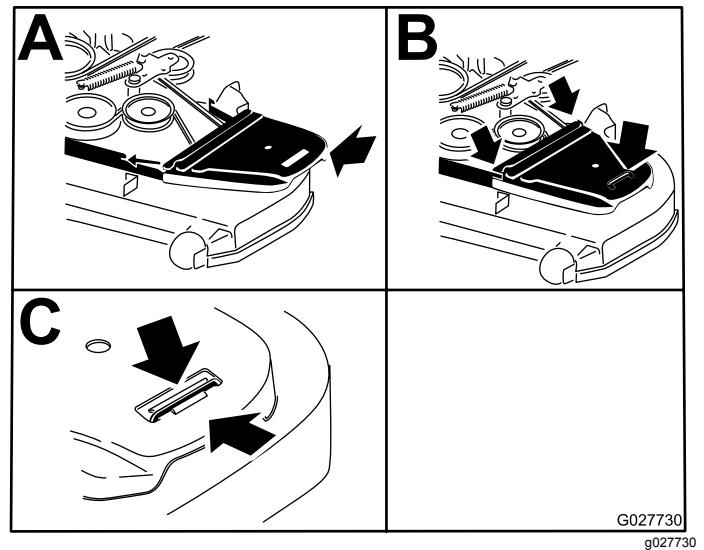

Figure 94
11. Install the belt covers (Figure 94).